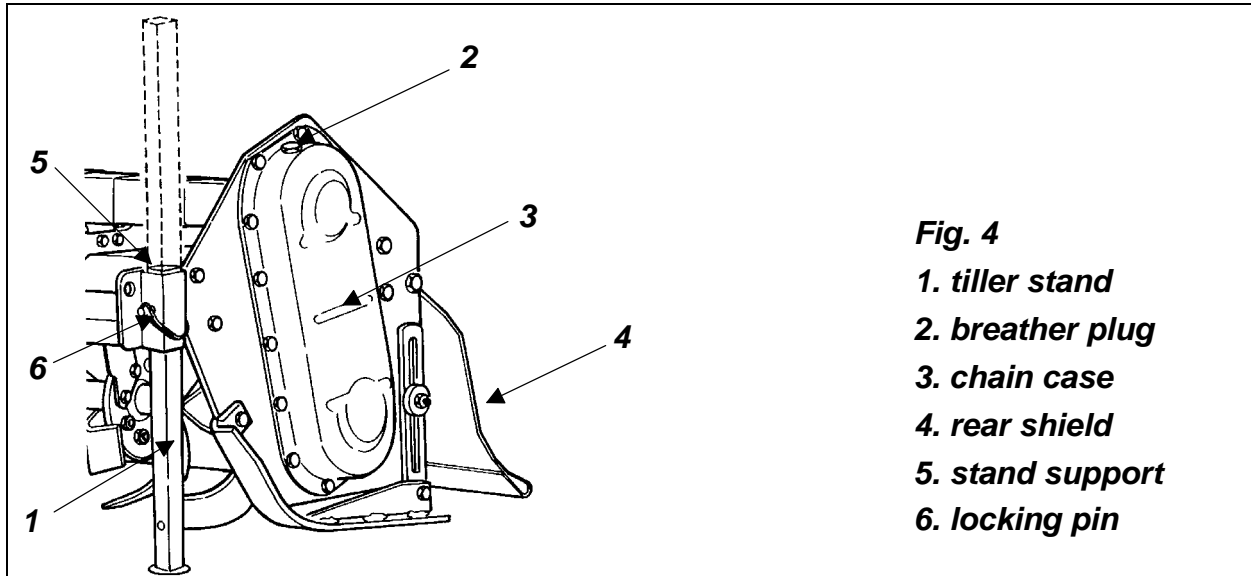
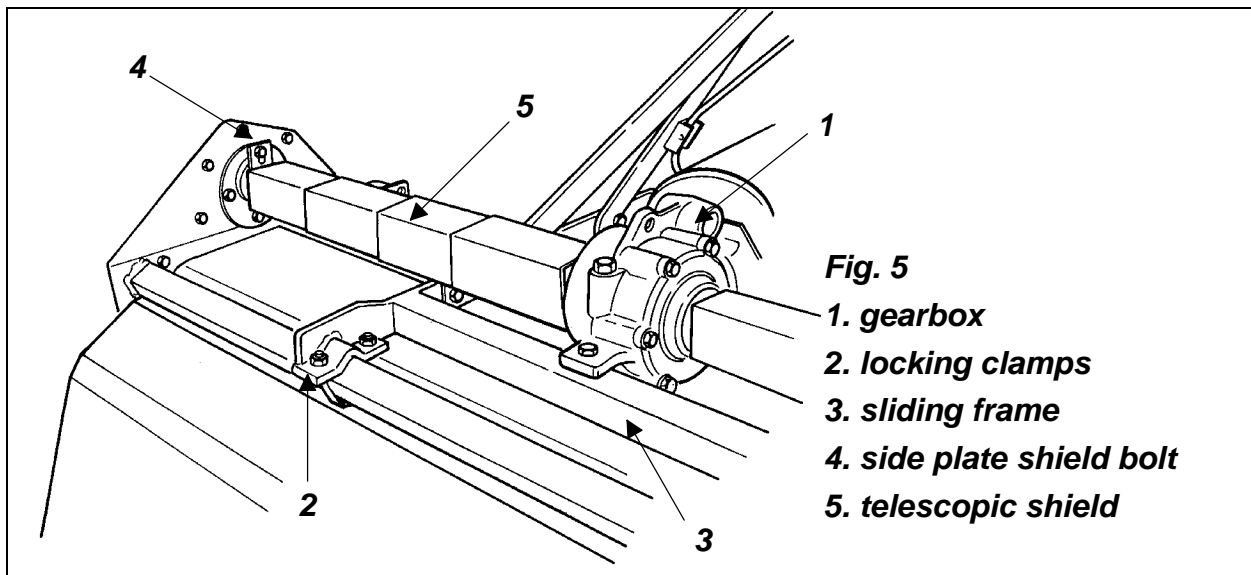

Fig. 4
Fig. 5
1. Lower the stand to support the tiller (**see fig. 4**). Secure it in place with the locking pin.
5. Ensure the breather plug (**see #2, fig. 4**) is screwed into the chain case (**see #3, fig. 4**). Check the gearbox oil level (**see #1, fig. 5**). It should be approximately half full. If needed add SAE 90W gear oil.
7. After shifting the sliding frame into its desired position, block it with both the front and rear locking clamps U bolts (**see #2, fig. 5**)⁷. Grease driveline cross and bearing assemblies. Grease sliding sections of shaft.
8. The hexagonal drive shaft is protected by a telescopic sliding shield (**see #5, fig. 5**). To attach this shield do the following: bolt the upright tab to the chain case side plate (**see #4, fig. 5**); open the telescopic shield and bolt the outer cover to the retaining plate on the sliding frame (**see #1, fig. 6**); ensure the telescopic shielding when open does not touch the hexagonal shaft and is parallel as possible; slide the frame back two or three times from completely open to completely closed to be sure it opens and closes without difficulty. Note: Lightly greasing the hexagonal drive shaft helps to side-shift the tiller.